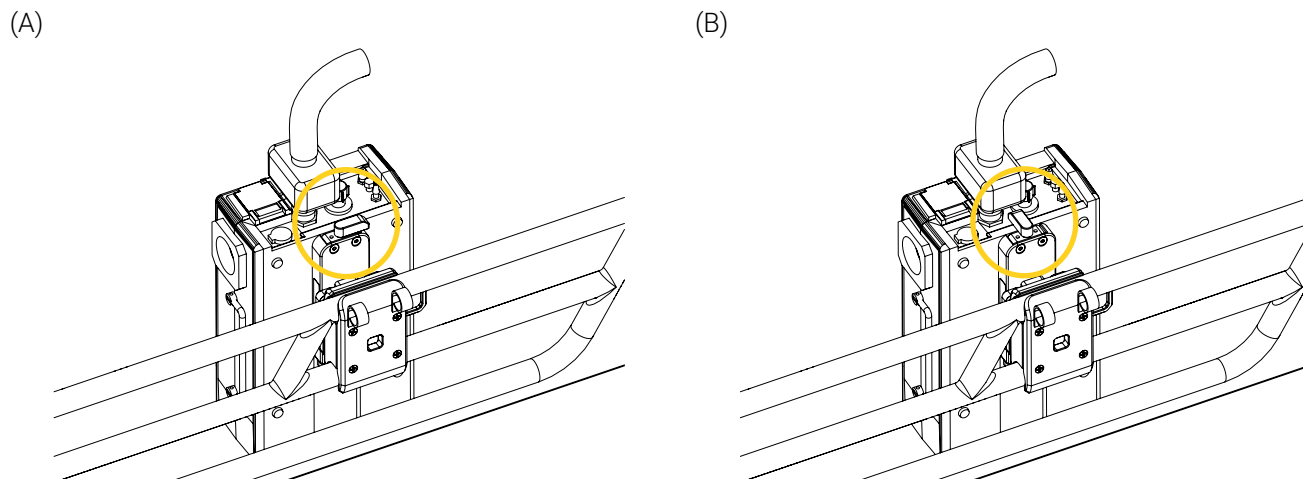

Figure 10: Medical device installed in the mounting bracket
3. Lock the mounting bracket using the turn latch (Figure 10). Refer to the « Locking the BP26–FQ » section on page 17 if needed.